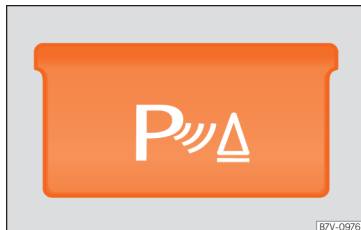

Fig. 271 Detailed view of the centre console: button to connect or disconnect the park assist.
- Press the **P** button when the ignition is switched on » **Fig. 271**.